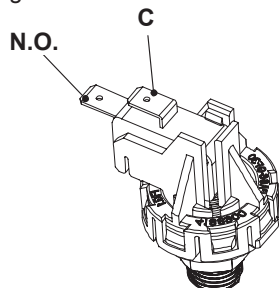

Figure 12.2
- 1 Measure the electrical resistance between the tabs marked C and N.O. (Figure 12.2).